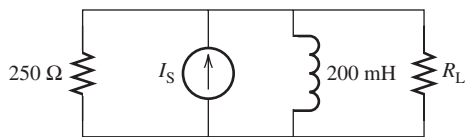

FIGURE P6.46 Circuit for Problem 6.46.
- 6.46 (B)* Determine the Norton equivalent current and equivalent impedance observed by R_L for the circuit in Figure P6.46 with the current source, $4 \cos(200t + 30^\circ)$.